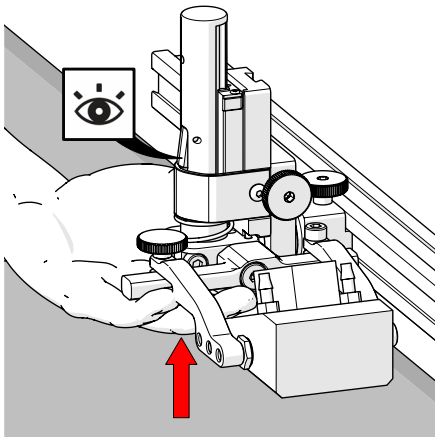

Fig. 169 - Latch probe holder
1. Ensure the probe holder is in the latched, upper position. Lift the probe holder until the latch is fully exposed and snaps out to lock (Fig. 169).
1. Ensure the probe holder is in latched, upper position (*Fig. 169*).
To return the transverse adjustment to neutral (90°). The probe holder must be in the latched, upper position (*Fig. 169*). Rotate the yoke until the stop post contacts the base of the probe holder (*Fig. 175*). Then tighten the transverse adjustment screw.
1. Ensure the probe holder is in latched, upper position (Fig. 169).